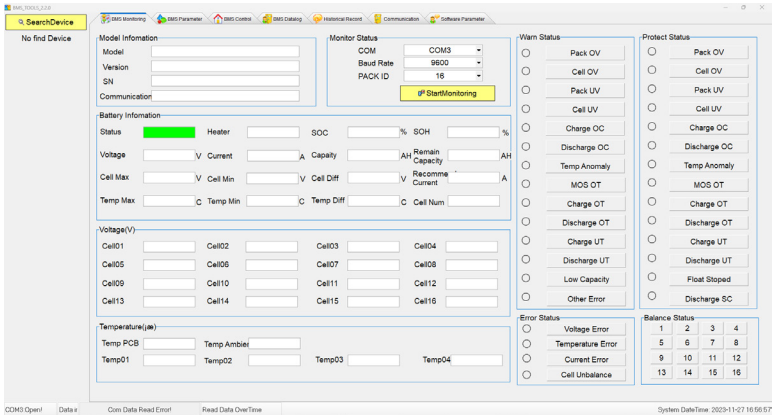

Figure 21: BMS_Tools Unconnected Screen
- Open the  **BMS_TOOLS** application which is located in BMS-TOOLS > BIN > BMS_TOOLS.exe. You will then see the screen shown in Figure 21 below.